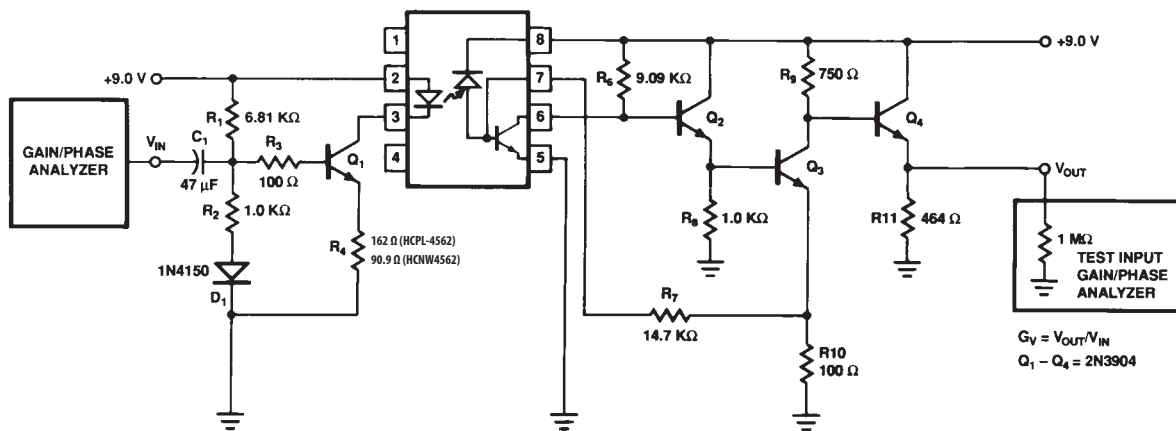

Figure 1. Gain and bandwidth test circuit
- When used in the circuit of Figure 1 or Figure 4; $G_V = V_{OUT}/V_{IN}$; $I_{FQ} = 6 \text{ mA}$ (HCPL-4562), $I_{FQ} = 10 \text{ mA}$ (HCNW4562).